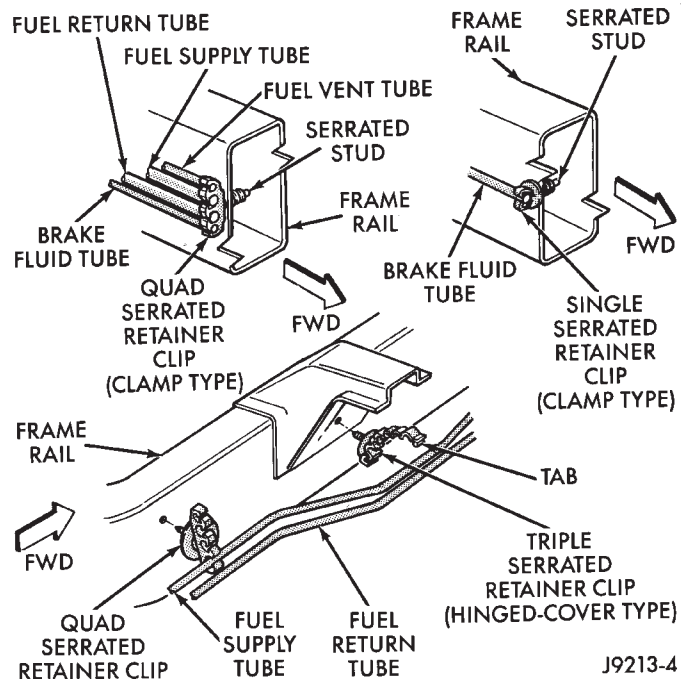

Fig. 7 Fuel & Brake Tube Serrated Retainer Clips—Typical
- (1) Remove the fuel/brake fluid tubes from the retainer clip grooves (Fig. 7).